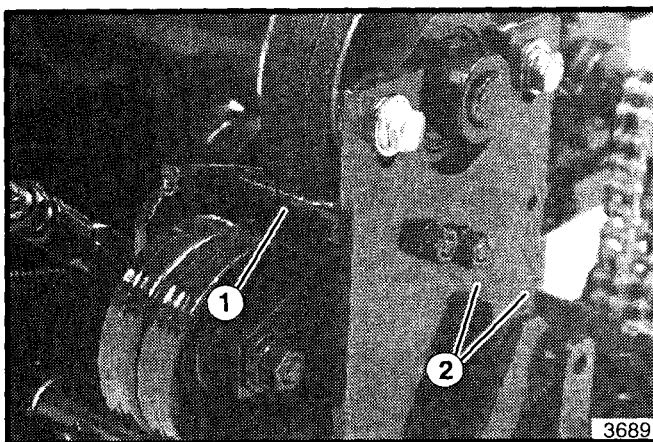

Figure 23. Belt Stop Adjustment
17. Engage reel drive clutch. Check the clearance from the idler pulley to the belt stop bolted to the mounting plate, clearance should be a minimum of 1/16" (2 mm). If necessary, loosen the belt stop and reposition it (see figure 23). Tighten hardware.